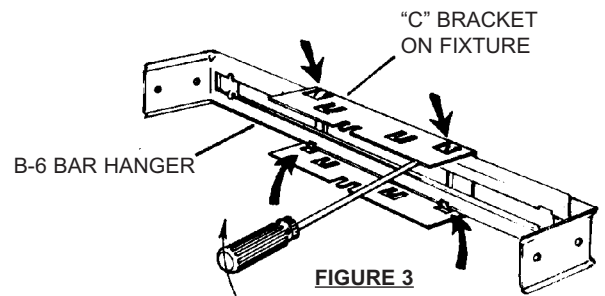

FIGURE 3
2. Attach other B-6 bar hanger to fixture by inserting in "C" bracket and prying locking tabs against bar. (Figure 3)